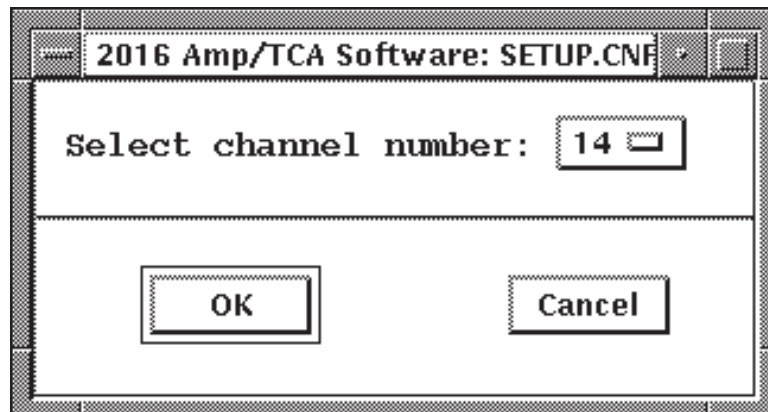
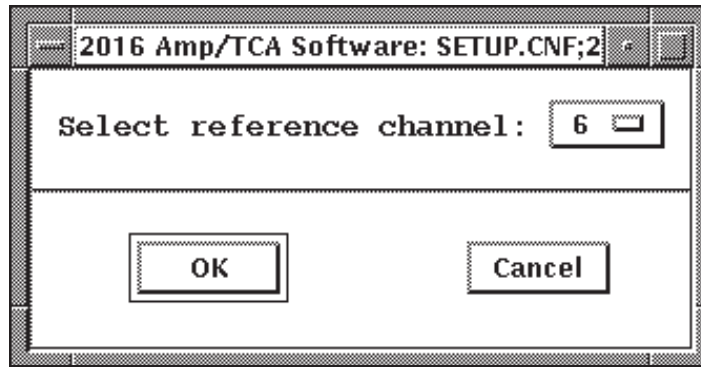
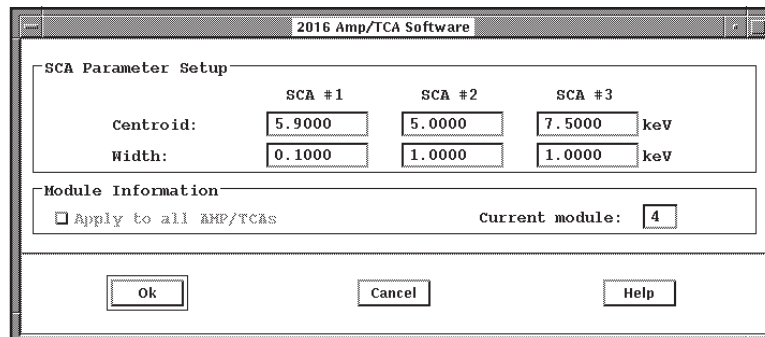

Figure 7 Selecting the 2016 to Calibrate
Figure 10 Selecting the Reference Channel
Figure 12 Viewing the Setup Parameters
3. Now you'll see the screen shown in Figure 7, which allows you to select the channel (that is, the specific 2016) that is to be calibrated.
At this time, the software will calculate the energy calibration equation, store it into the corresponding detector input, and ask you to verify the gain normalization by looking at the MCA View Control window. Pressing OK will bring you back to the amplifier selection dialog shown in Figure 7, allowing you to select another channel (2016).
2. The procedure starts with the screen in Figure 7, which lets you select a channel to be gain normalized. Pressing Ok brings up the screen in Figure 10, which asks you to select a previously calibrated channel to use as the reference.
4. When the normalization is complete, press Ok to return to the screen in Figure 7 and select another channel to normalize.
2. The procedure starts with Figure 7 and proceeds to the screen shown in Figure 12, which displays the parameters for the selected 2016's three SCAs.